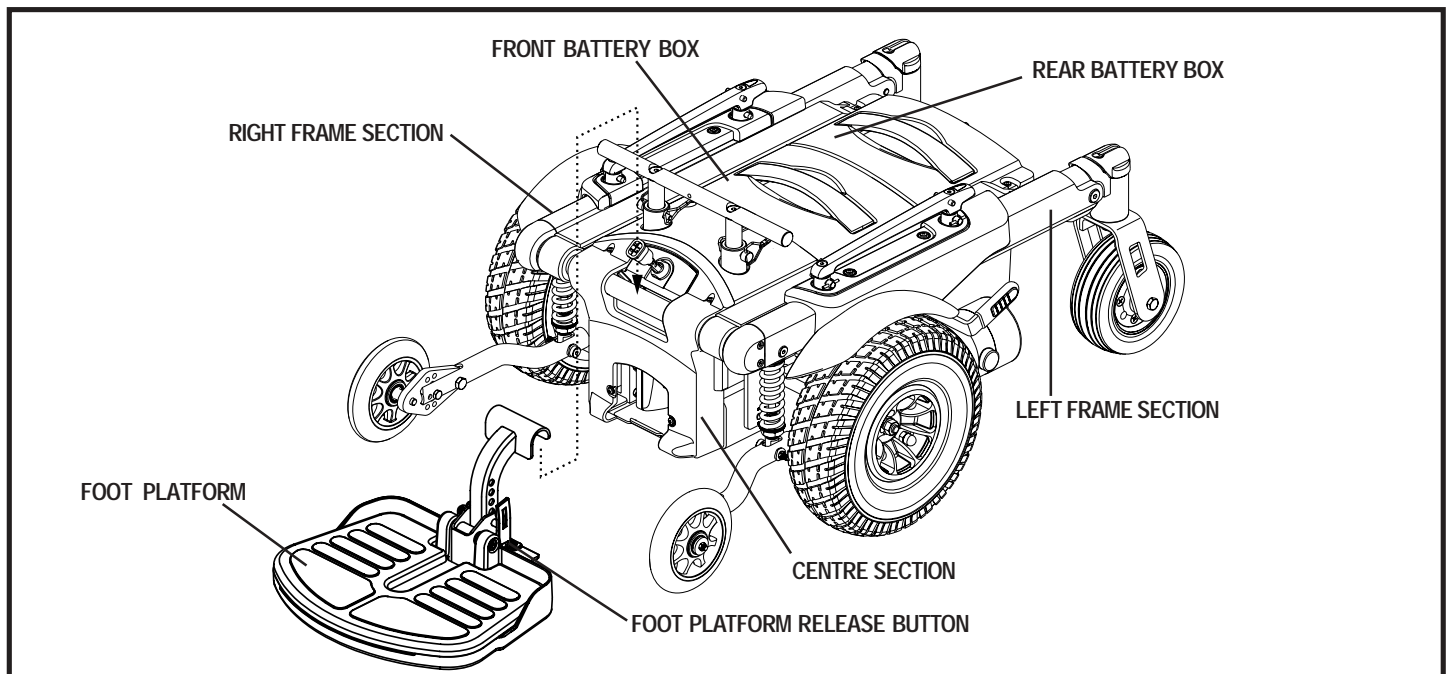

Figure 13. Power Base Components
The Jazzy 1107 power base disassembles into six parts for easy transportation and storage. See figure 13.
4. Press the foot platform release button and lift off the foot platform. See figure 13.